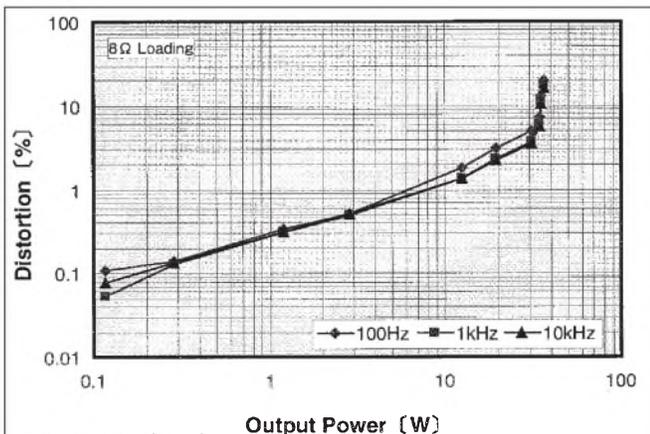

FIGURE 13: Distortion.
2) Distortion characteristic—Fig. 13